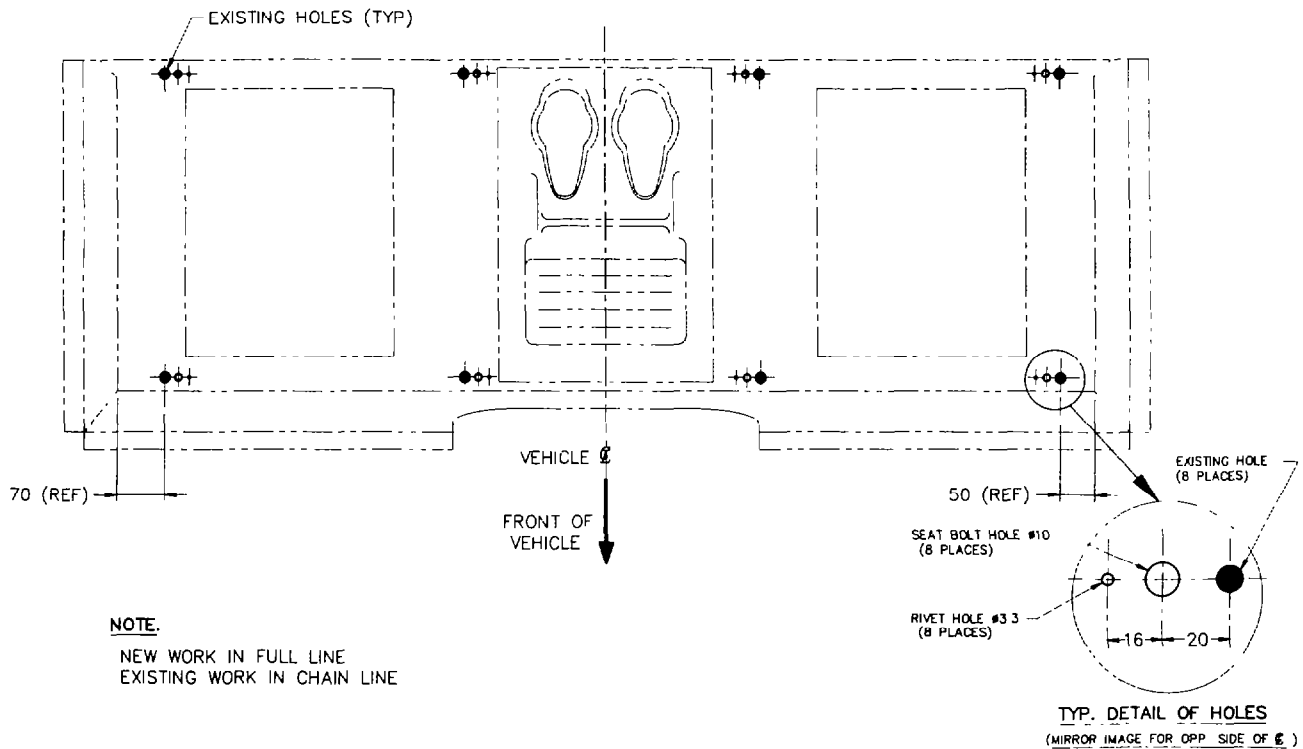

Figure 2 - Seat Base Mounting Holes
d. Mark and drill holes shown in Figure 2, as follows:
- (1) seat mounting bolt holes, 10 mm diameter hole, 20 mm inboard from the original holes, and
- (2) seat nut retention plate holes, 3.3 mm diameter hole, 16 mm inboard from the original holes.
e. Refit the seat base nut retention plates with new pop rivets, item 1 from Table 2.